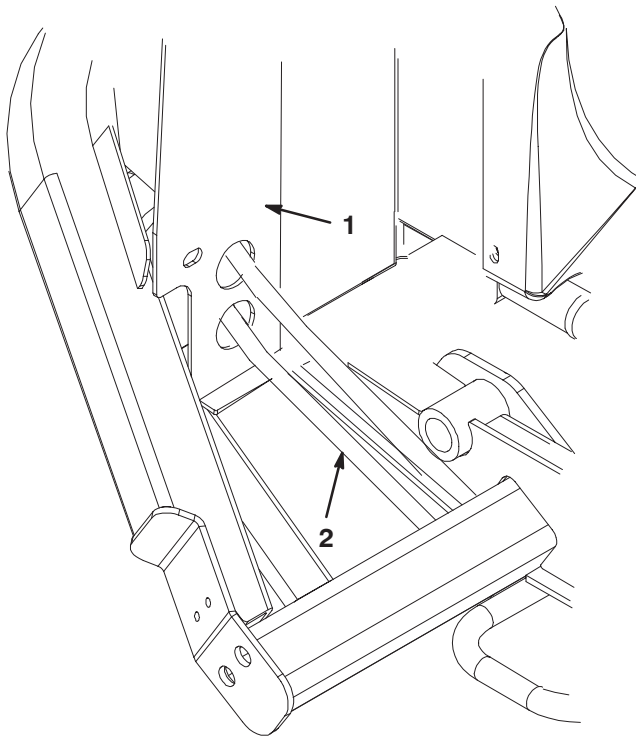

Figure 17
23. On the right side of the machine, just ahead of the radiator frame, place a drain pan under the oil cooler return hose (lower hose) (Fig. 17).